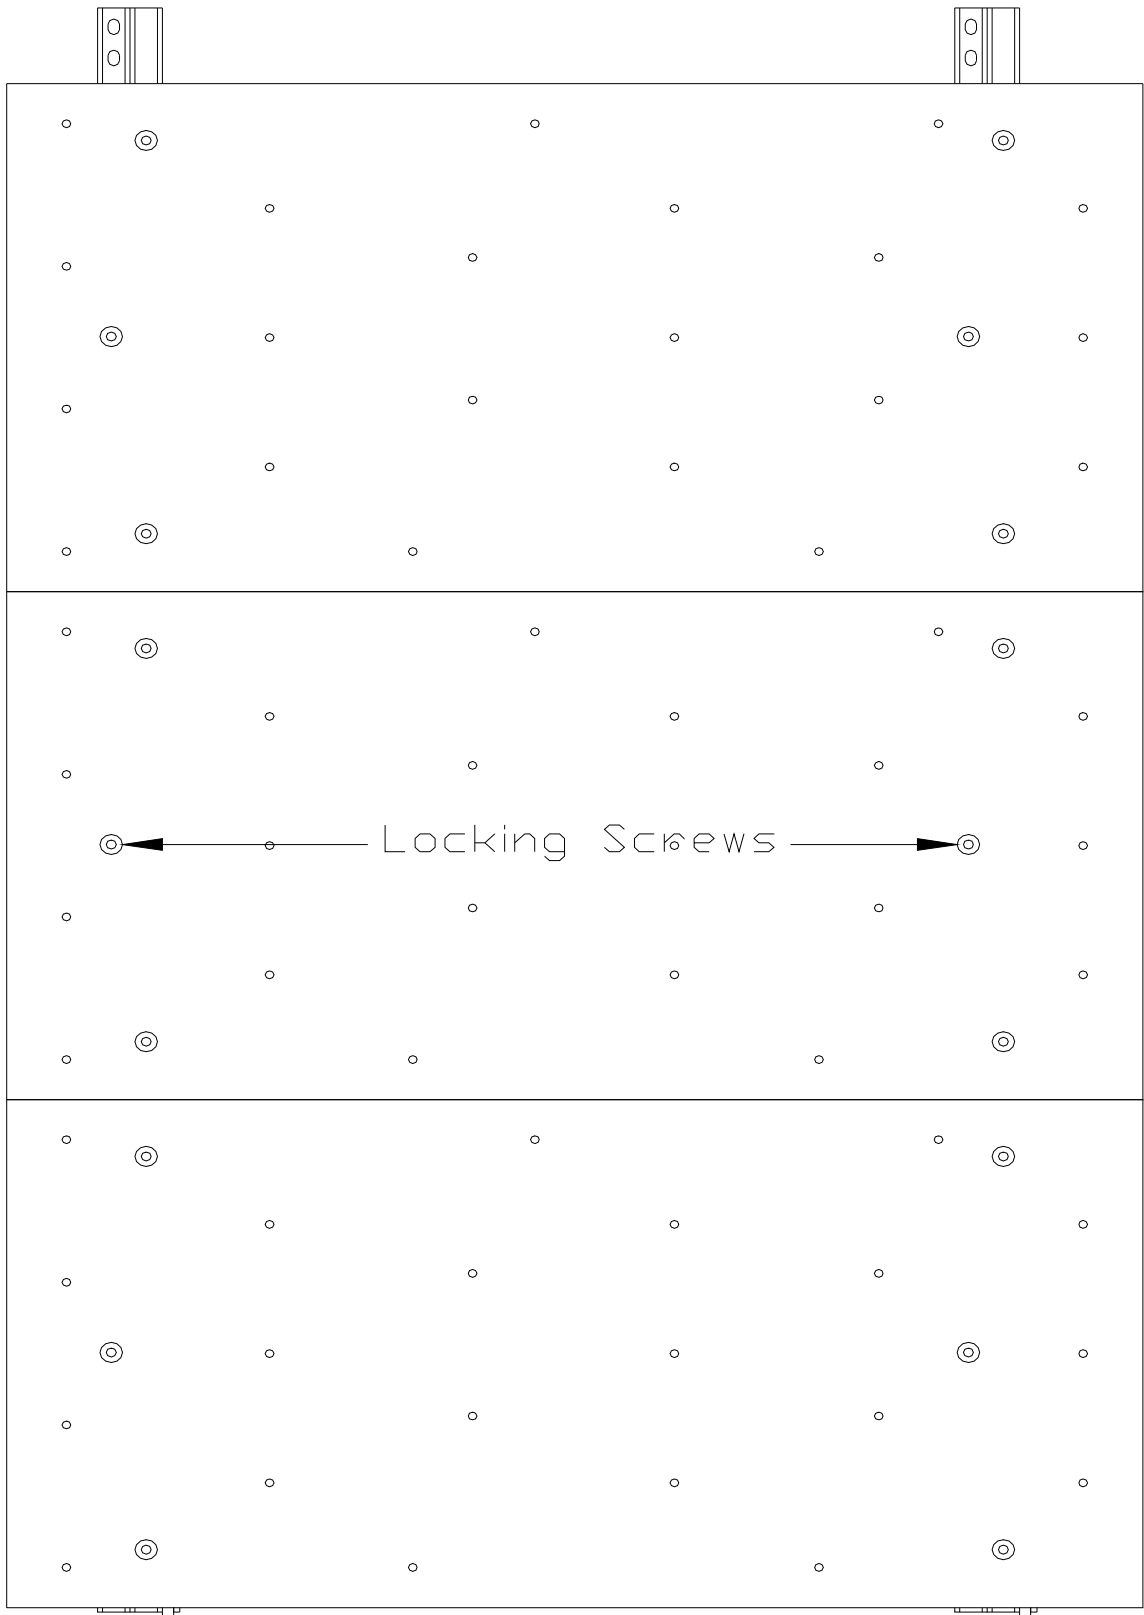

Figure 3
1. The panels can be used in a vertical position, or the bottom will slide out to a sloped position for clients who lack sufficient strength to hold on to a vertical surface. **Note: the panels are locked in the vertical position with two 3/8" x 1-3/4" flat head screws in the middle panel (see figure 3). These screws must be in place and engage the locking nuts on the inside channel when using the panels in the vertical position. Failure to observe this could result in injury if the panel were to slide out when in use.**